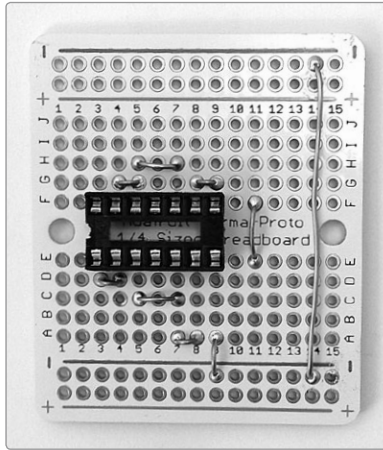

FIGURE 15-9: All the jumpers are in place.
to push the jumpers down flush with the surface of the PCB, where they might cause short circuits with holes they're supposed to be jumping over. Figure 15-9 shows all these connections.
Step 7 For the final jumper, cut a 2 1/4-inch length of bare bus wire and run it along column 14, from the top ground rail to the bottom ground rail, as shown in Figure 15-9.